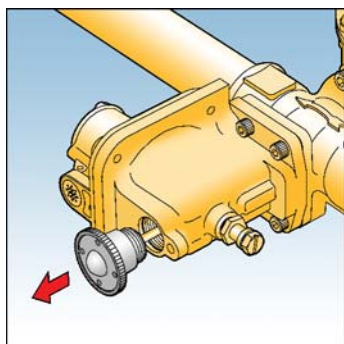

Fig. 4
- 11) If safety device fitted, re-cock by unscrewing reset spindle end cap and pulling firmly. Hold in this position until the outlet pipework is fully pressurised, then release reset spindle end cap gently. Re-screw reset spindle end cap into body. See Fig. 4.